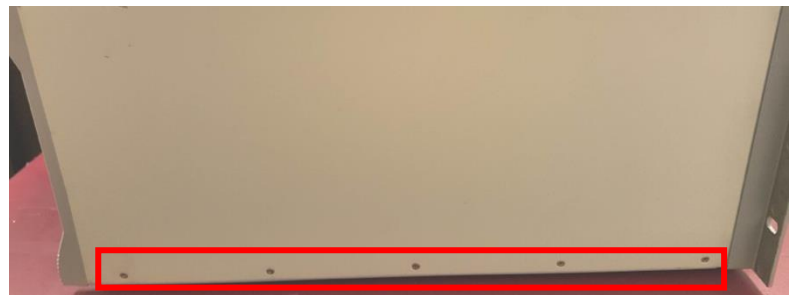

Figure 3: Chassis Side Panel
3. Remove all screws from the two sides of the chassis using the Phillips screw driver. Retain all removed hardware for reassembly. Note Figure 3 below.
4. Connect CN3 of the Power Supply to P6 Connector on the bridge or to the connector specified in Table 1 above. The P6 connector on the backplane is shown in Figure 3 above. It is necessary to apply RTV adhesive on the seam where the two connectors attach to secure the connection.
2. Screw in the 10 side panel screws onto the chassis (5 on each side) using the Phillips screw driver. Note Figure 3 above.